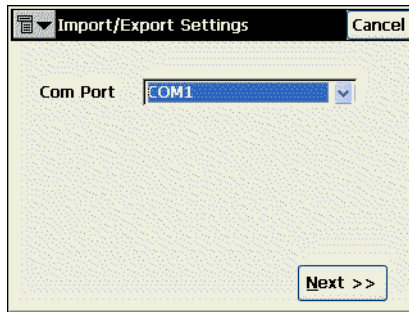

Figure 5-11. Import/Export Settings
2. On the *Import/Export Settings* screen, select the means of communication, then tap **Next** (Figure 5-11).